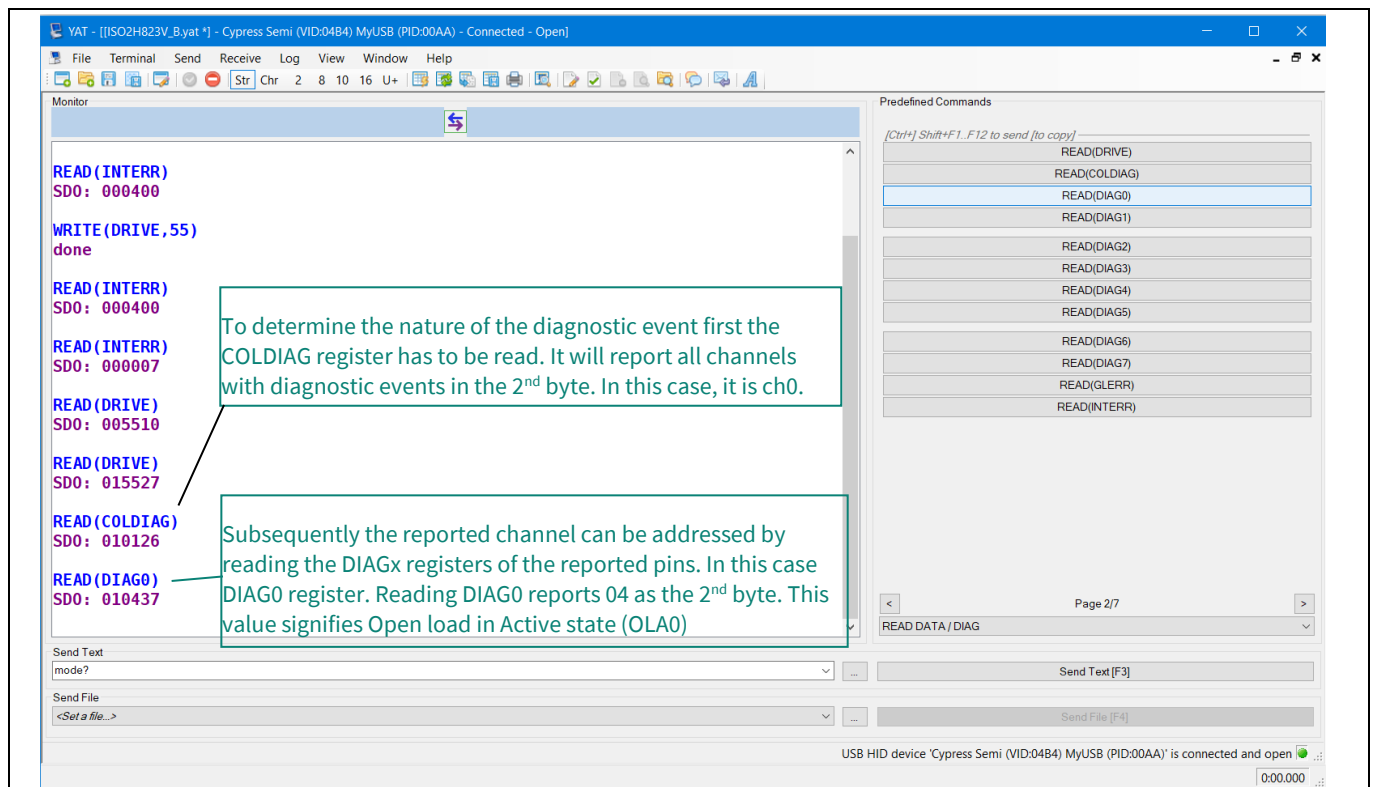

Figure 11 Determining channel resolved diagnosis (read COLDIAG register followed by a read to the corresponding DIAGx register)
In this case, the command READ(COLDIAG) reports 010126. As the 2nd byte again is the content of the addressed register (01), it becomes clear that channel 0 is the only affected output. To determine the origin of the diagnosis, the command READ(DIAG0) is sent to the IC that posts 010437 as response. The 2nd byte of the response represents the content of the DIAG0 register. The 04 signifies that the problem is open load in active state OLA0. Details to these commands are shown in Figure 11.